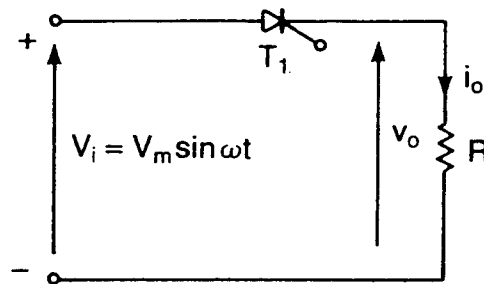

fig.Q4
- (c) A single-phase half-wave rectifier shown in fig.Q4 is operated from a 220 V, 50 Hz supply. If the resistive load, $R = 4 \Omega$ and the firing angle, $\alpha = 45^\circ$,
- (ii) Determine the V_{dc} , V_{rms} , form factor, FF and ripple factor, RF for load output voltage of the rectifier in fig.Q4. **[6 marks]**